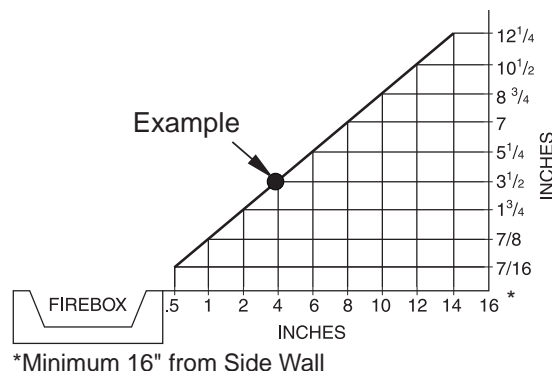

Figure 4 - Minimum Clearance for Combustible to Wall
- where curtains, furniture, clothing or other flammable objects are less than 36" from the front and 42" from top heater. For side clearances see *Figure 4, Page 10*
A. Clearances from the side of the fireplace cabinet to any combustible material and wall should follow diagram in **Figure 4**.
Example: The face of a mantel, bookshelf, etc. is made of combustible material and protrudes 3-1/2" from the wall. This combustible material must be 4" from the side of the fireplace cabinet (see **Figure 4**).